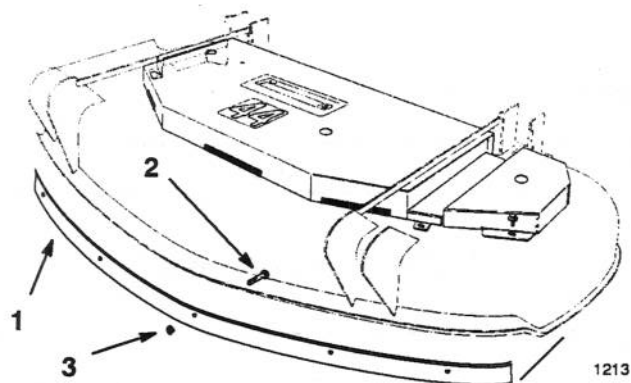

Figure 2
1. Position front baffle inside mower deck level with left edge of mower (Fig. 2).
3. Secure front baffle to mower with (7) 5/16 x 19 mm bolts, through from the inside and thin lock nuts (Fig. 2).
2. Secure belt cover to mower with (2) 3/8 x 19 mm bolts and washers (Fig. 2).
2. Place grommets below belt cover and insert new slot headed 1/4 turn fastener. Secure belt covers to mower with (4) 1/4 turn fasteners (Fig. 2).